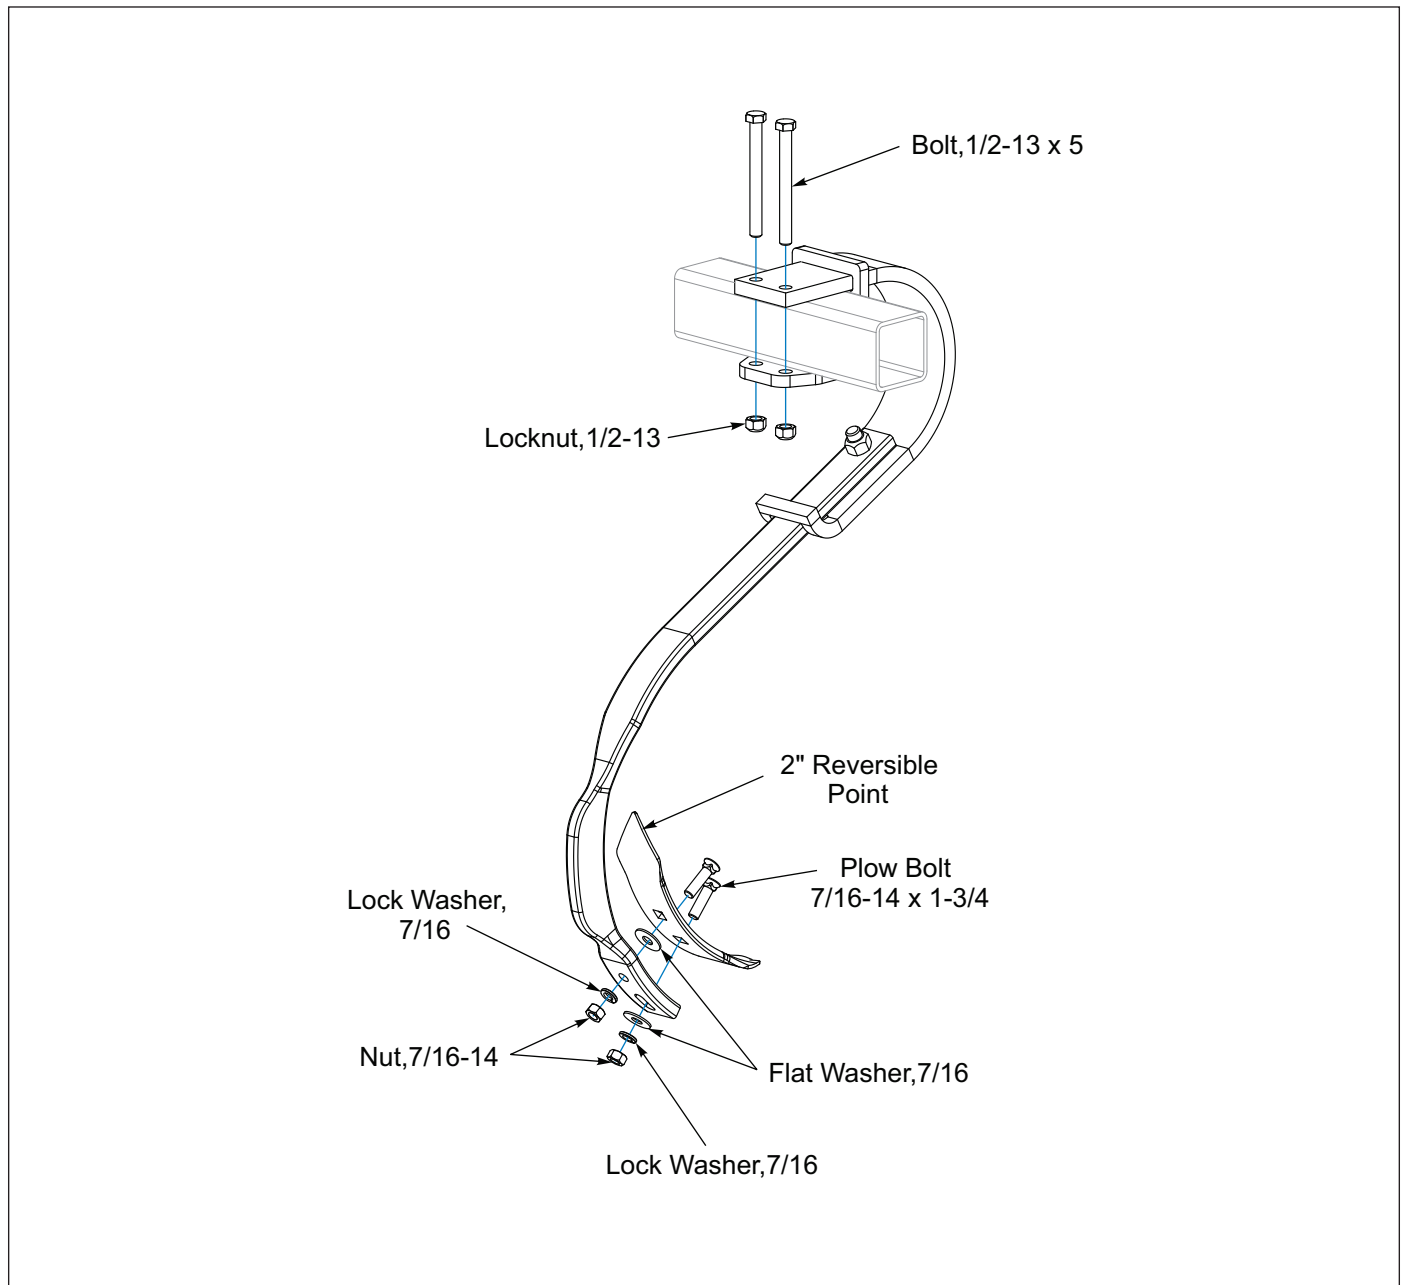

Figure 2-68: Wing Shank Installation
2. Assemble Points to Shanks as shown in **Figure 2-68**.